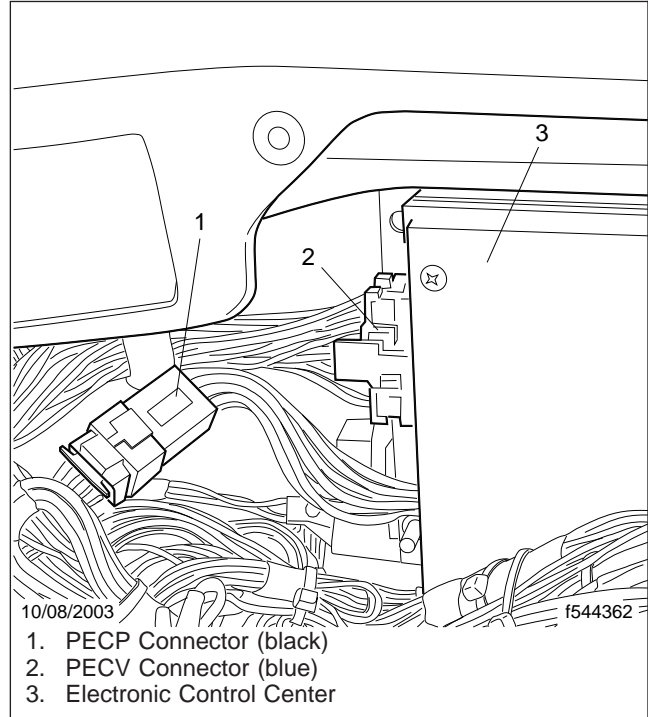

Fig. 2, Electronic Control Center Connections (for vehicles without Star Gauge dash)
4. Disconnect the blue PECV connector from the left-hand side of the Electronic Control Center (ECC). See Fig. 2.
9. Disconnect the black PECP connector from the pigtail on the left-hand side of the ECC. See Fig. 2.